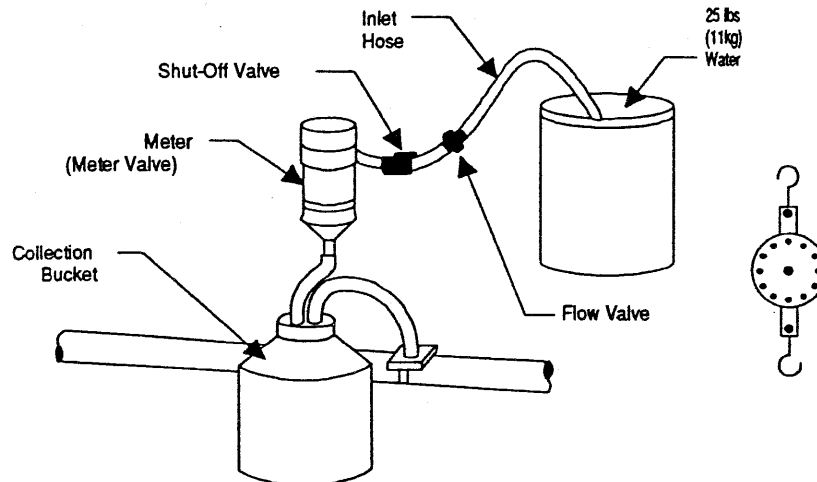

Figure 6.1 Water Test Setup
3. Put a 6 inch long 5/8" milk hose on the milk meter inlet. Install a milk hose shut-off valve, another 6 inch long 5/8" milk hose, and the flow control valve (88033). Connect a milk hose long enough to reach to the bottom of the five gallon pail. See Figure 6.1.